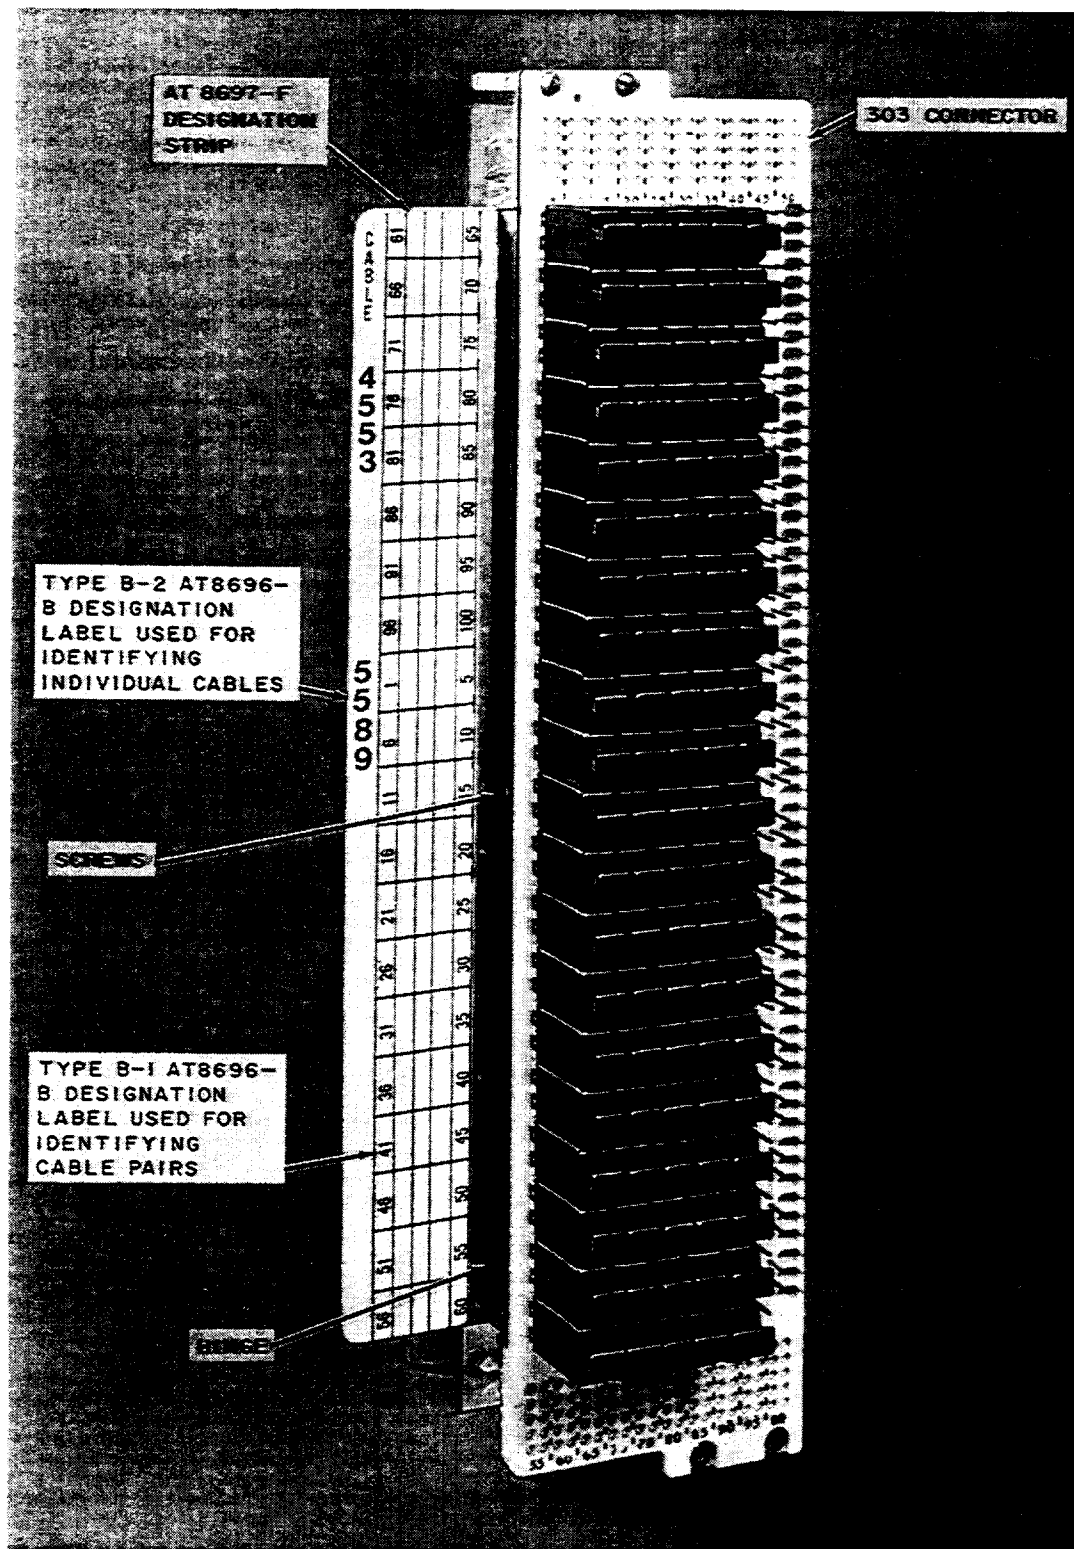

Figure 6—AT-8697-F Designation Strip Mounted on 303-Type Connector
3.16 As shown in Figure 6, the hinged portion of the designation strip is mounted to the left side of the 303-type connector by utilizing the three existing screws on the ground bar.